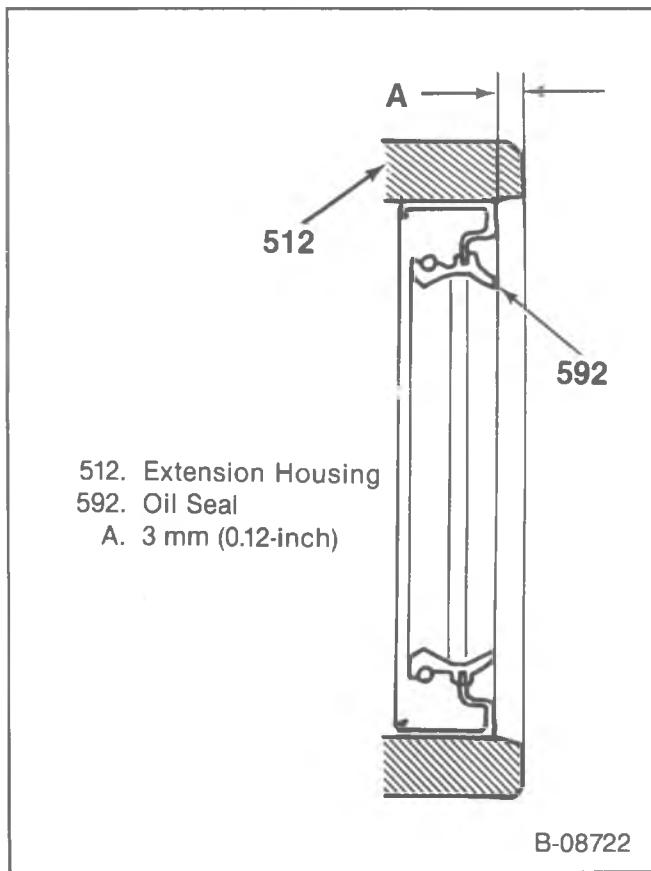

Figure 100—Rear Extension Seal Installed
- The seal must be recessed 3 mm (0.12-in.) from the end of the housing, (figure 100).